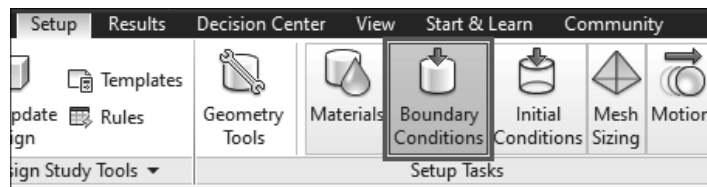

Figure-20. Boundary Condition tool
- Before applying the boundary conditions on the surface of model, you need to enable the **Boundary Conditions** task by clicking on it from the **Setup Tasks** panel of **Setup** tab in the **Ribbon**; refer to Figure-20. The **Boundary Conditions** tool will be enabled.